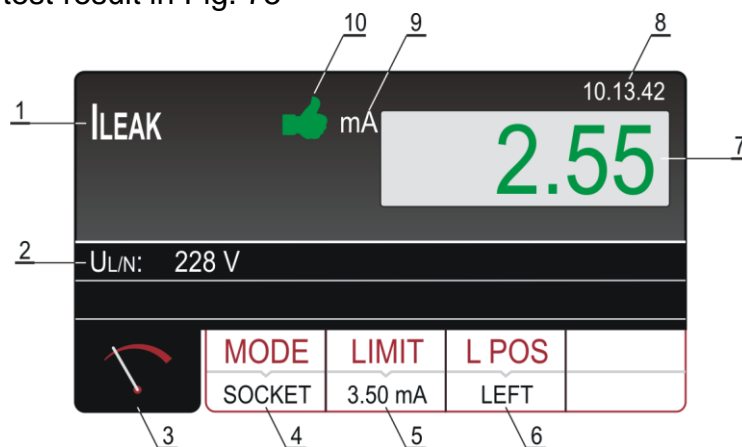

Fig. 75 : Visualization of ILEAK test result – SOCKET mode
8. Start the measurement by pressing the **START/STOP** key. The measurement will start to run and will be stopped after pressing the **START/STOP** key again. Measurement result will be currently displayed in green color if it is lower than or equal to set limit value or in red color if it is higher than set limit value. Final result will be equipped with green  symbol and with beep-beep sound if it is OK or with red  symbol and with longer beep sound if it is not OK. See the display outlook with test result in Fig. 75